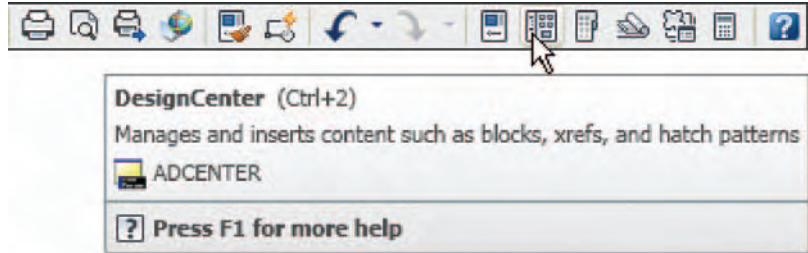
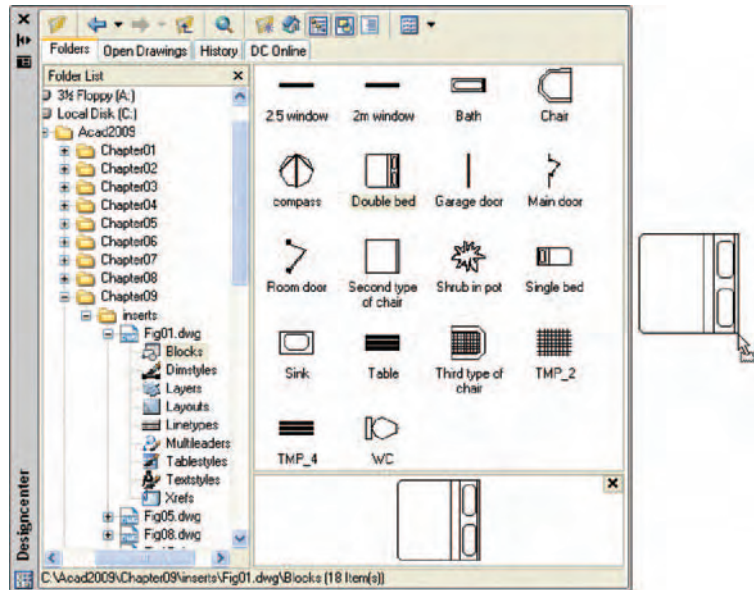

Fig. 9.9 Selecting **DesignCenter** from the **Standard Annotation** toolbar
Fig. 9.10 The **DesignCenter** with the double bed block **dragged** on screen
2. *Left-click* **DesignCenter** in the **Tools/Palettes** panel (Fig. 9.9) or press the **Ctrl+2** keys. The **DesignCenter** palette appears on screen (Fig. 9.10).